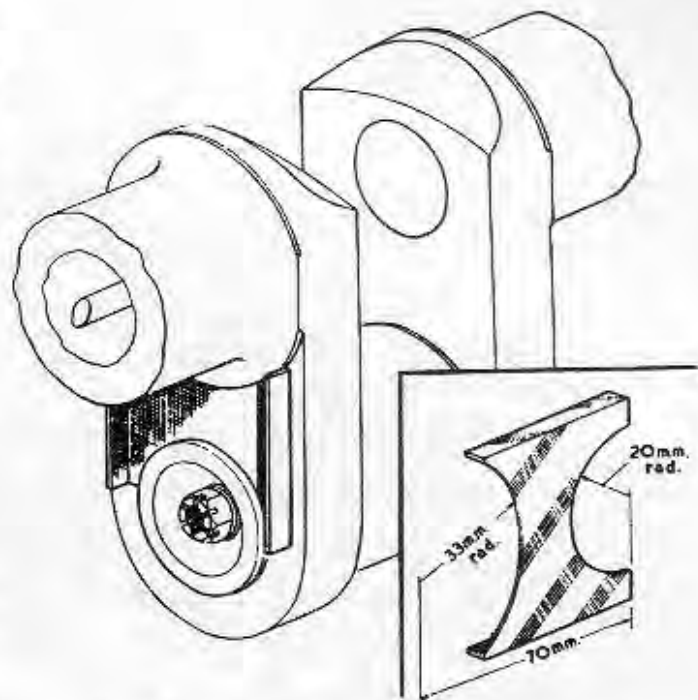

Fig. 7. Oil seal concentricity gauge
8. Ensure that the large oil seal washers are seating correctly and that the oil seal assembly is central in the crankpin or journal. A simple concentricity gauge can be made on the lines suggested in fig. 7, and an adjacent crankpin or journal used as a point of register to check the correct positioning of these parts.